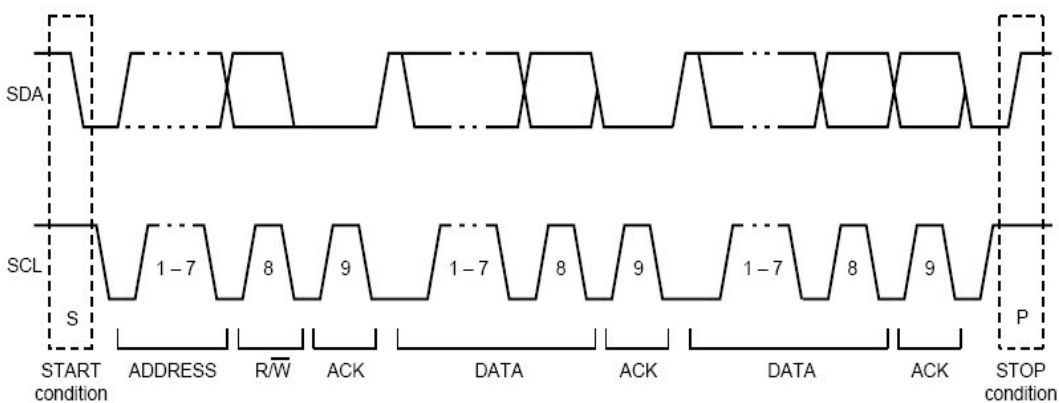

Figure 5: I2C Interface protocol definition
The I2C interface definition has special bus signal conditions. Figure 5 shows start (S), stop (P) and binary data conditions. At start condition SCL is high and SDA has a falling edge. Then the slave address is sent. After the 7 address bits the direction control bit R/W selects read or write operation. When a slave device recognizes it is being addressed, it should acknowledge by pulling SDA low in the ninth SCL (ACK) cycle. At stop condition SCL is also high but SDA has a rising edge. Data must be held stable at SDA when SCL is high. Data can change value at SDA only when SCL is low.